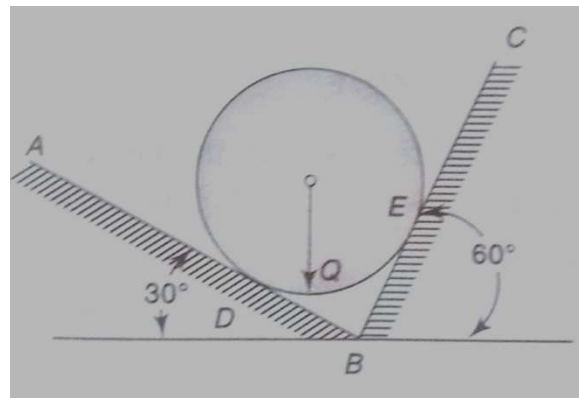

Figure 1.7
13. A ball of weight $Q = 53.4 \text{ N}$ rests in a right-angled trough as shown in Figure 1.7. Determine the forces exerted on the sides of the trough at D and E if all surfaces are perfectly smooth.